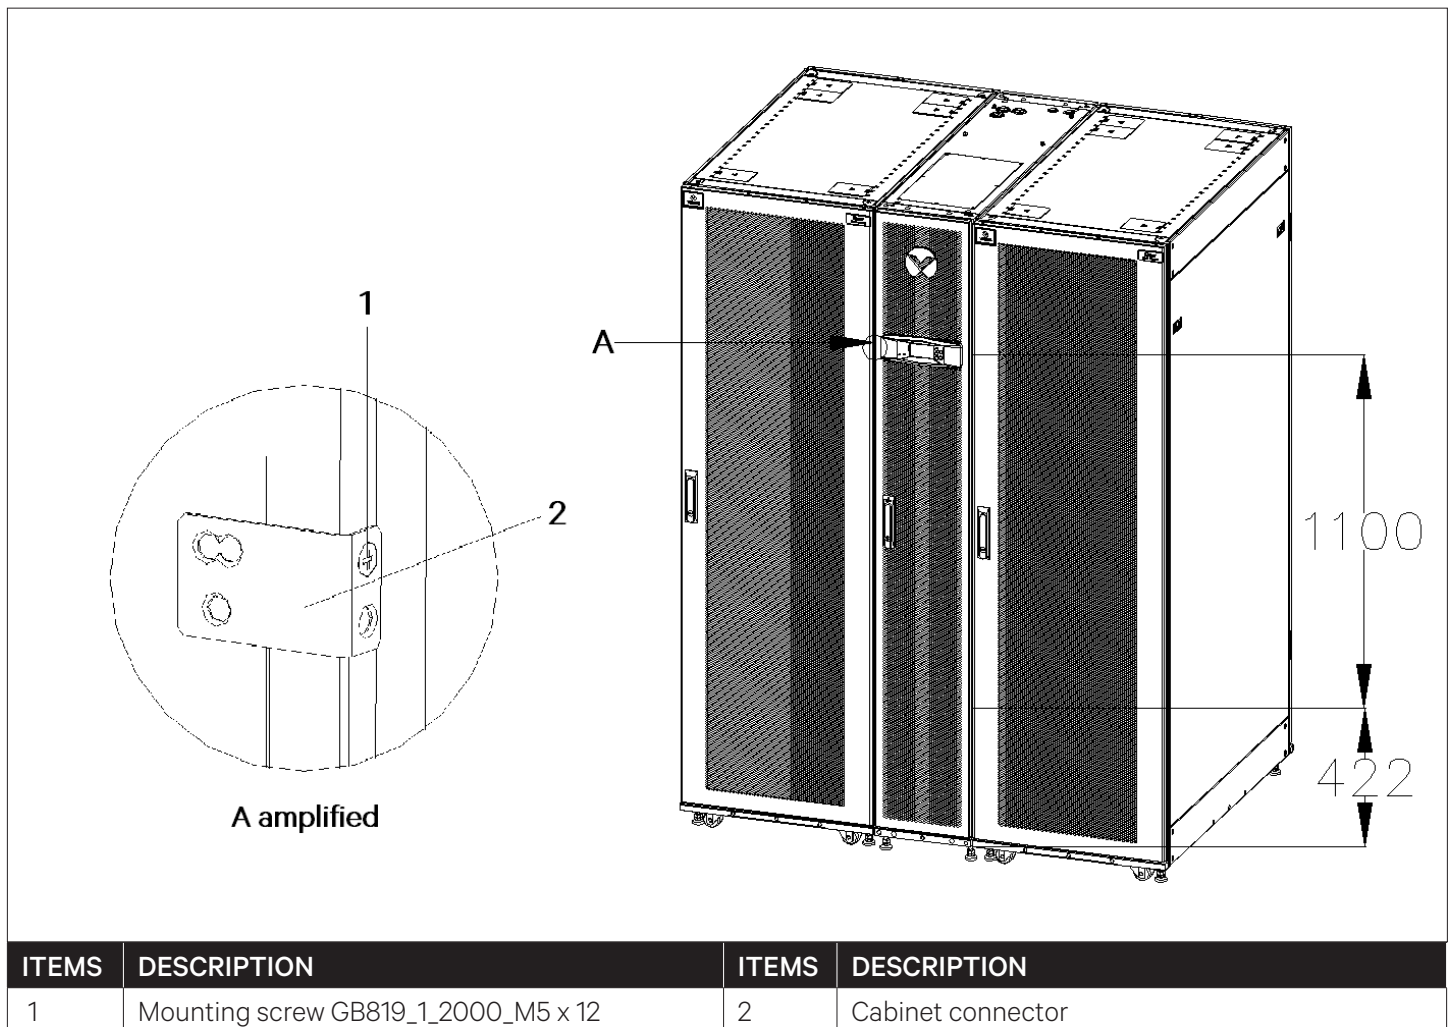

Figure 2-11 Connecting the Unit and Server Racks in Parallel
1. Remove the L-shape combined cabinet part from the unit accessories kit. Figure 2-11 shows position A (left) of the L-shape combined cabinet parts.
2. Use M5 countersunk screws to fix the cabinet parallel connecting parts (L-shaped) on the unit frame (hinge side) and the installation holes of the adjacent server rack, as shown in Figure 2-11.